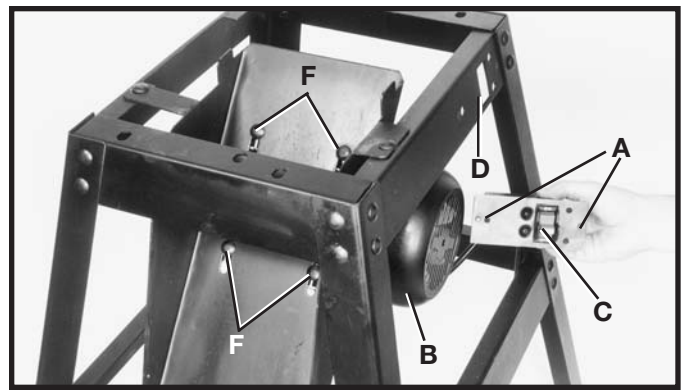
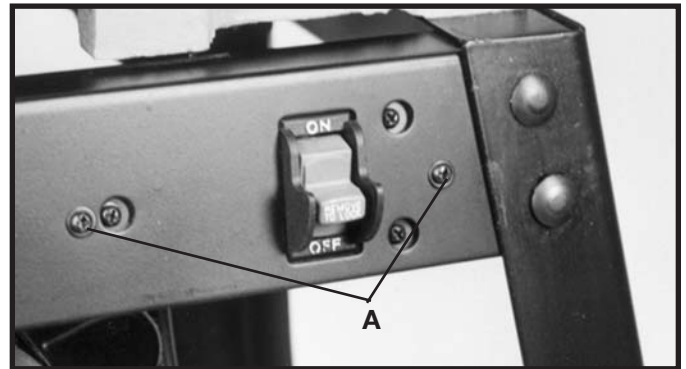

Fig. 7
Fig. 8
1. Assemble motor (B) Fig. 7, to the bottom of the dust chute. Align the four holes (F) Fig. 7, in the dust chute, with the four holes in the motor mounting plate. Insert a 5/16-18x1¼" carriage bolt through hole in dust chute and hole in motor mounting plate. Place a 5/16" flat washer on screw and secure with a 5/16-18 hex nut. Repeat this process for the three remaining holes. **Do not completely tighten hex nuts at this time as the motor must be adjusted for proper alignment and belt tension later.**
2. Remove M4x.7x10mm pan head screws, M4.1 flat washers and M4x.7 hex nuts from two holes (A) Fig. 7 in switch.
3. Insert switch assembly (C) Fig. 7 from the inside of the stand. Align the holes (A) in the switch with the holes in the stand (A) Fig. 8.
4. Place a M4.1 flat washer onto a M4x.7x10mm pan head screw. Insert screw through hole (A) in stand and switch. Thread a M4x.7 hex nut onto screw. Repeat this process for the remaining hole in stand and switch.